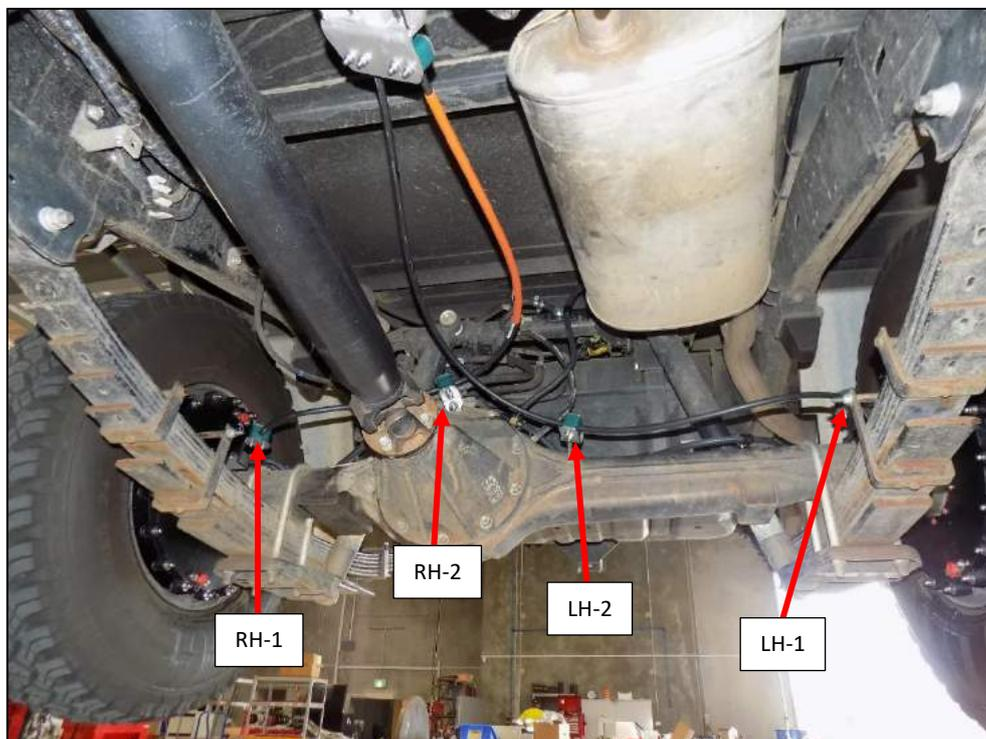

Figure 36
- 25. The image below shows the recommended park-brake cable routing and required mounting points (Figure 36). Note the cable cross-over.